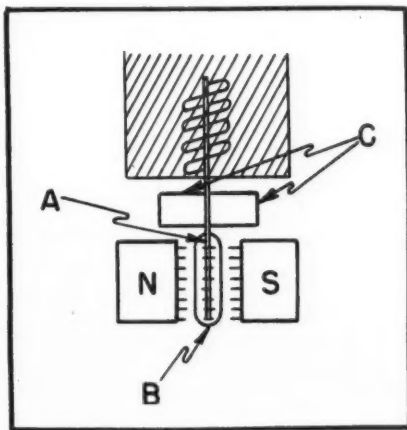
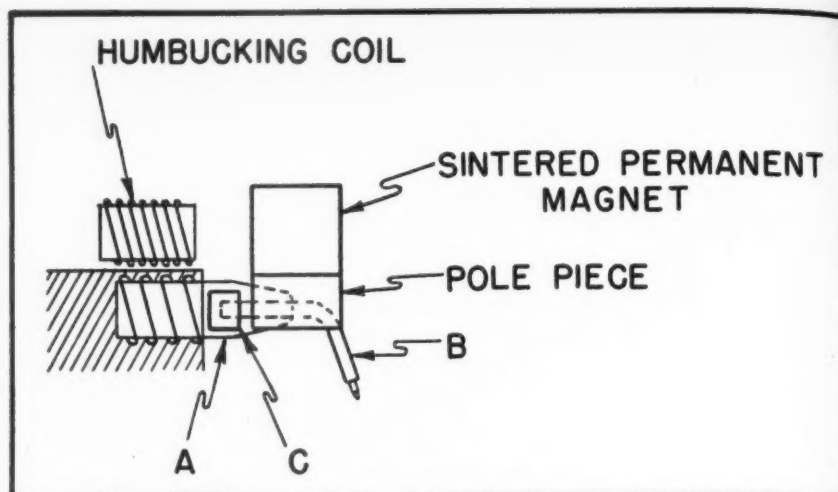
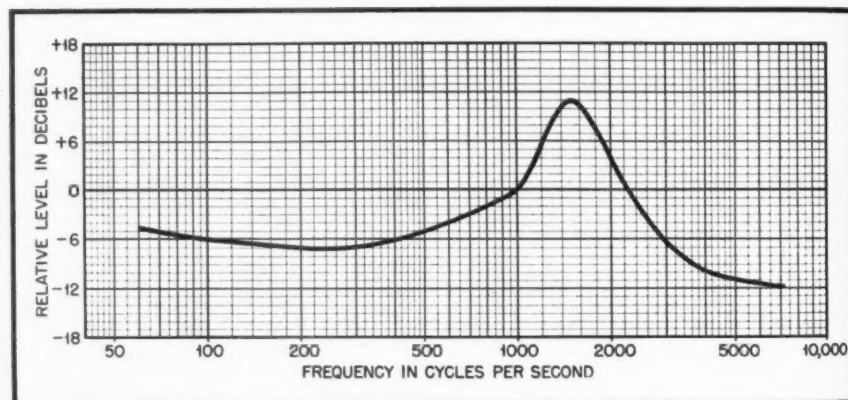
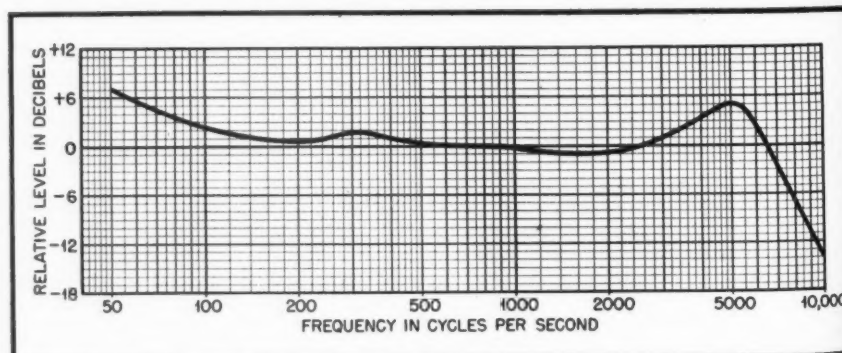

Fig. 1. Schematic view of pickup generating system
Fig. 2. Pickup side elevation, showing how stylus shank is bent
Fig. 3. Frequency characteristic of suspension shown in Figs. 1 and 2 without damping
Fig. 4. Frequency response of pickup with damping applied
The moving system in this pickup consists of a thin vibrating reed of high-permeability magnetic material rigidly supported at one end and with a stylus attached to the free end. Fig. 1 is a schematic view of the generating system employed. The vibrating reed (A), is solidly supported in the shaded area. A soft iron stylus shank, (B), is split and mounted at the free end. Fig. 2, which is a side elevation, shows the manner in which the stylus shank is bent so that its end projects downward through the pickup case. A demountable tip is cemented into a recess drilled into the end of the shank, (B). A small horseshoe magnet is mounted to produce a substantially uniform yield between the pole pieces (N) and (S). With the suspension shown and without any damping, the frequency characteristic of the moving system is as shown in Fig. 3. Note that the resonance peak is only 12 db in amplitude and is not particularly sharp, due to the low "Q" of the reed suspension. By introducing damping, the curve is modified as shown in Fig. 4. In quantity production, this characteristic curve may be maintained with a tolerance of ± 2 db from the norm. The damping material is in the form of two small blocks, indicated at (C) in Fig. 1. These damping blocks are cemented into position and in assembly are compressed just enough to insure contact at both ends. These are not used as centering adjustments, this practice having so